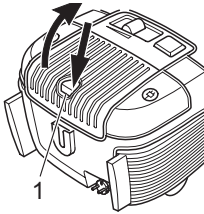

Fig. 32
2. Open the blow-out filter cover. To do this, press the lock (Fig. 32/1) back and pull the blow-out filter cover up.